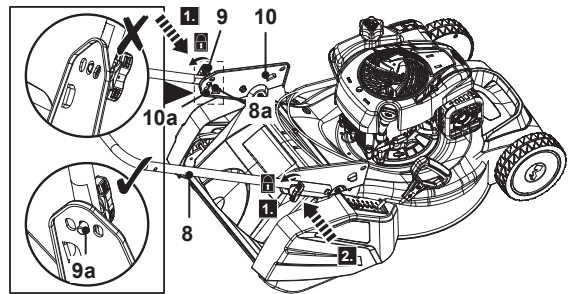

Fig. 2
3. Align the mounting holes (8a, 10a) of the lower handle bar (8) with the two handle brackets (10), then turn the two locking knobs (9) 90° clockwise (Fig. 2, step 1).
4. If necessary, press the locking knob (9) to make sure that the auto-tension pin (9a) passes through the mounting holes (8a, 10a) of the lower handle bar (8) and handle bracket (10) on both sides (Fig. 2, step 2).